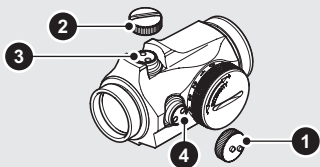

Fig. 2 Remove adjustment cap and cap
- a Open lens covers (10) and (11).
- b Adjust the intensity (7) to a comfortable setting for the red dot to contrast against the target.
- c Remove the adjustment cap (1) and the cap (2) to access the windage adjustment screw (4) and the elevation adjustment screw (3). See Fig. 2.